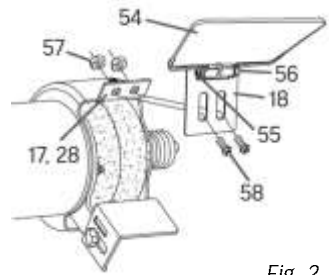

Fig. 2
6. Assemble the safety shields (#54) to the spark guards (#18) with the screws (#55) and nuts (#56) (Fig. 2).
7. Assemble the spark guards to the wheel guards (#17, 28) with the screws (#58) and nuts (#57), being sure to leave them slightly loose (Fig. 2).